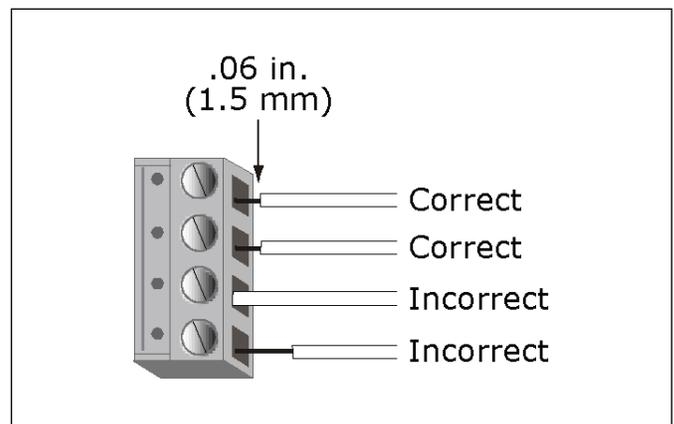

Figure 12
- ▶ Allow no more than .06 inch (1.5mm) of bare communication wire contacts to avoid touching the cable's foil shield wire, or a metal surface other than the terminal block. The device may not communicate correctly otherwise (See Figure 12).